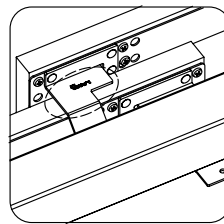

Fig.9-4
| Door bracket ③ scratches the top of other doors (Fig. 9-4). | | ⇒ | Check if door height is within the specifications. | Replace with door of appropriate height. | 2 |